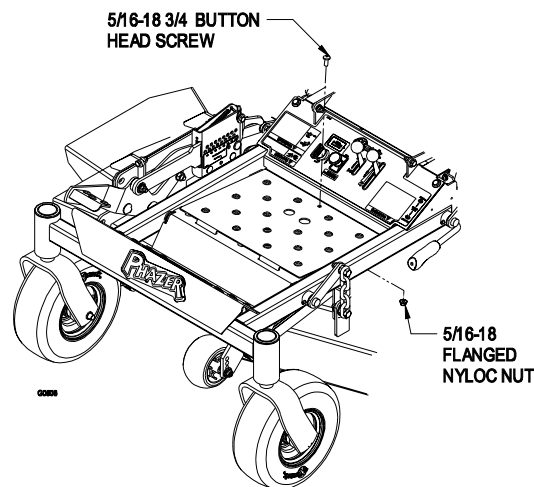

FIGURE 3
- 1.9.2 The 5/16-18 x 3/4 Button Head Screw and 5/16-18 Flanged Nyloc Nut that secures the floor plate can be removed. See Figure 3